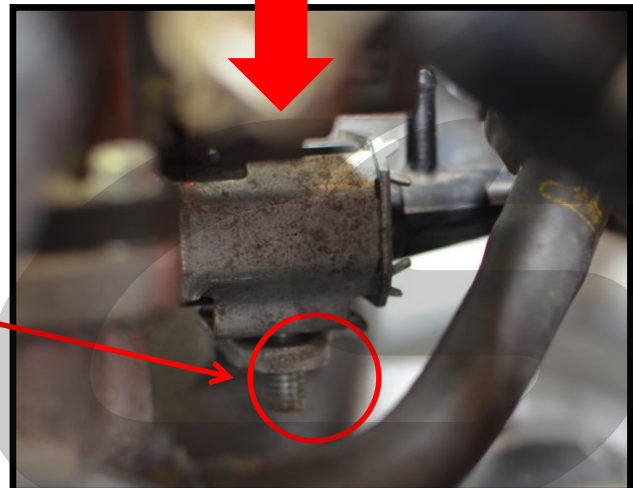

Figure 8b
- c) Remove the OEM EBCS. Using a 10mm wrench, remove the flange nut. Shown with the red circle in Figure 8b.